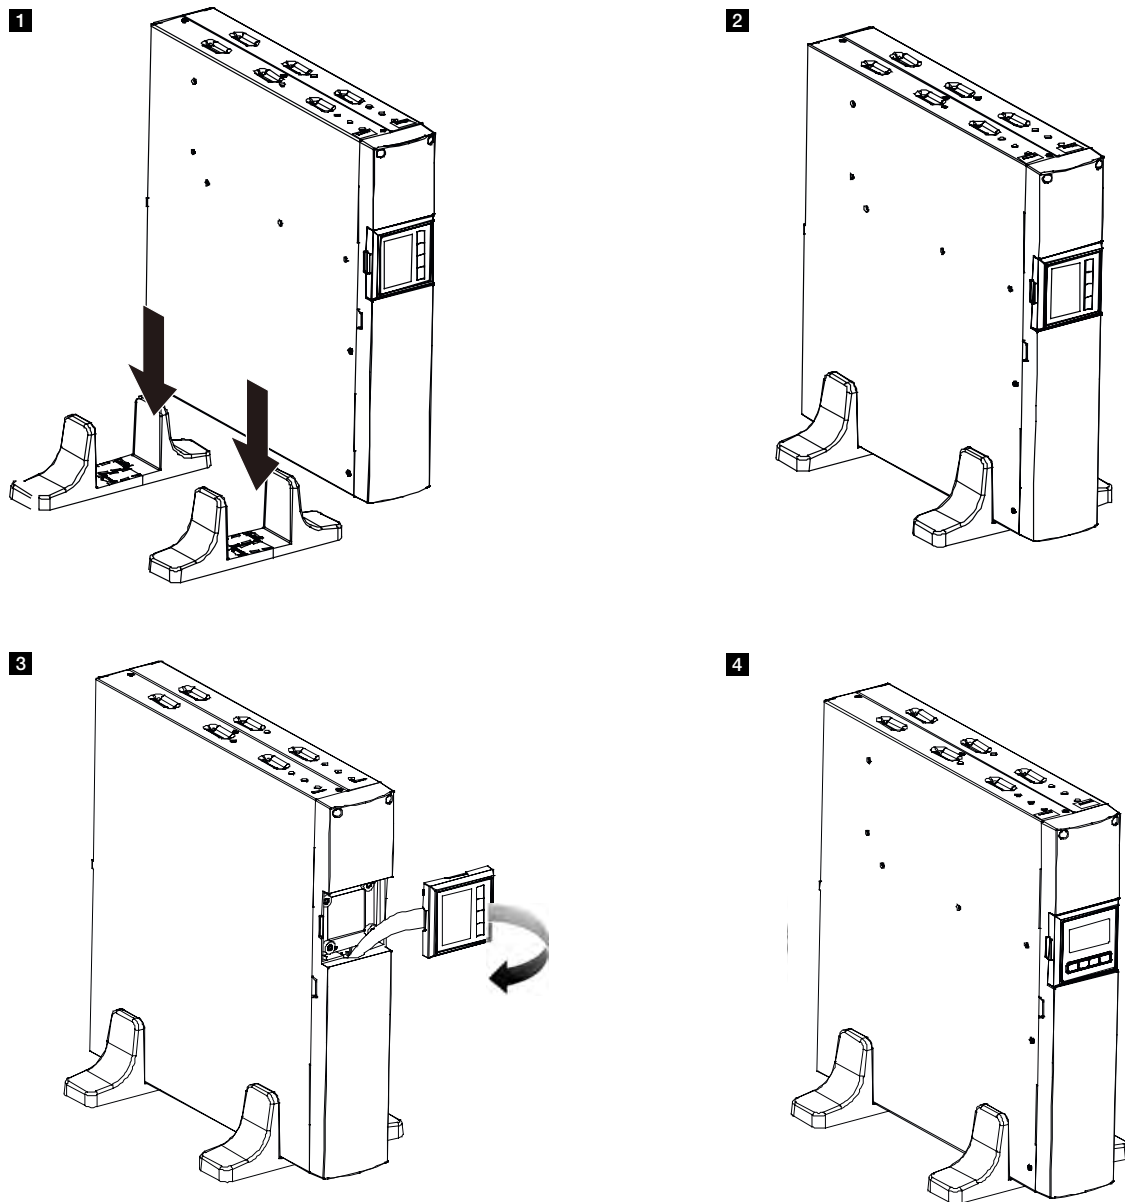

Figure 5: Installing the UPS in a vertical position
2. Place the two stands on a horizontal surface (see figure 5).